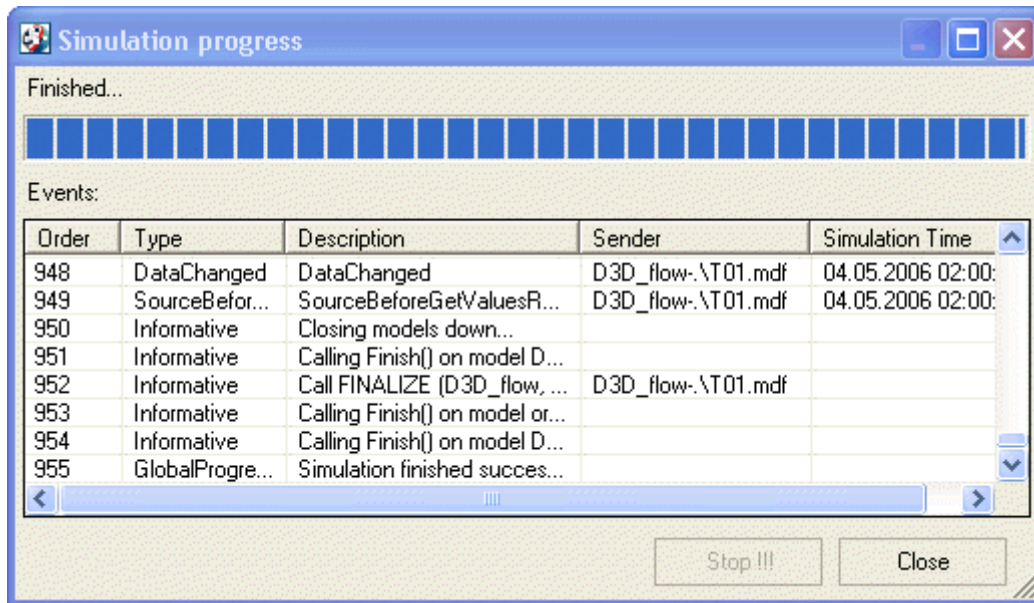

Fig. 18: Simulation progress with event table.
4. The **Don't use separate thread** check-box determines whether simulation is run in the same thread as the user interface (UI). If the simulation runs in a separate thread, UI responds immediately and the user can even stop it. However, some components wrapping for example a model using *COM single-thread apartments* can run in problems, because model (in this case the *COM* object) is intialised in UI thread and not in simulation thread. If simulation runs in same thread as user interface, and timestep of some model takes long time to execute, UI can stop to respond and the user isn't able to stop simulation.
9. If you enabled **Show events in listbox** there will be a simulation progress dialog as in Fig. 18 . On top the simulation progress is shown. Below is the event table. The column **Simulation Time** can be helpful.